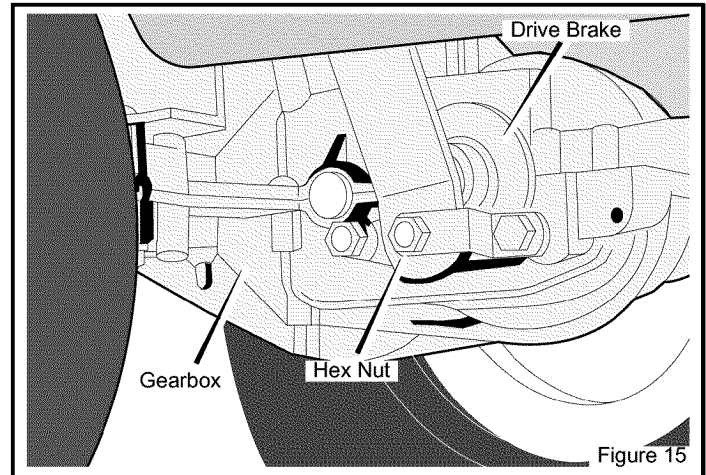

Figure 15
1. The location of the **drive brake** is on the left side of the **gearbox** (Figure 15).
2. Make sure the parking brake is set and the shift lever is in neutral (N). Turn the **hex nut** in a clockwise direction until the rear wheels do not turn when the unit is pushed forward.